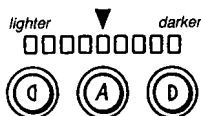

Figure 1-8
- 2) Press the ☒ key to select 'count', and press the OK key; see Figure 1-8.